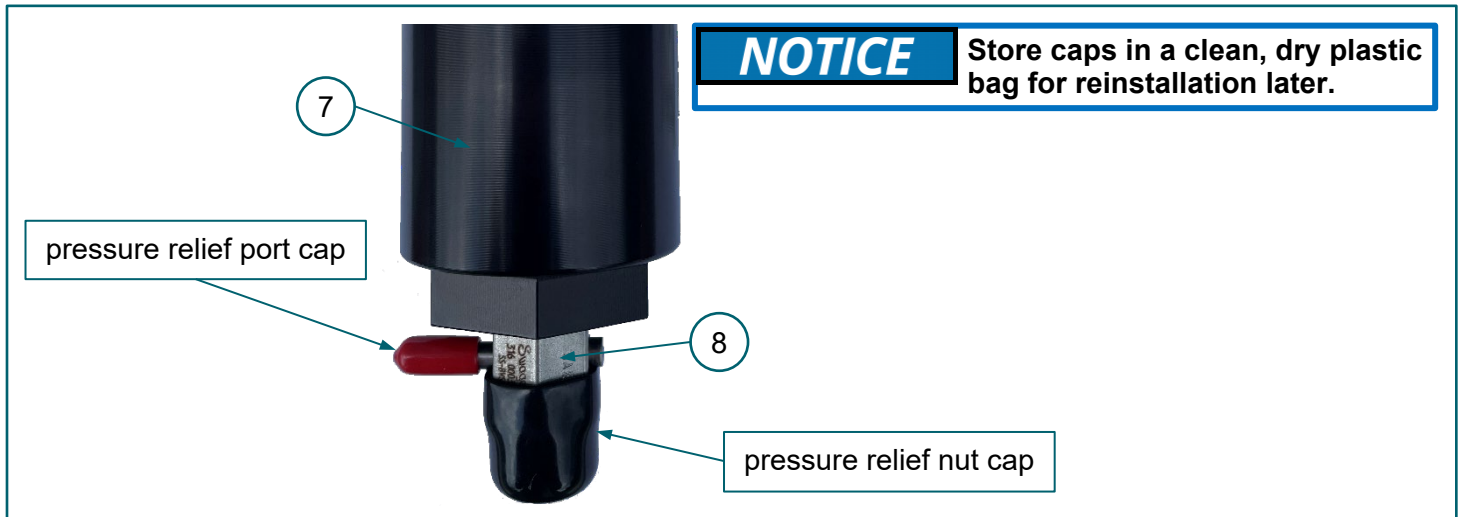

FIGURE 2-2. (7) HP fuel filter, (8) bleed valve, pressure relief port cap, pressure relief nut cap
6. Remove bleed valve pressure relief port cap and pressure relief nut cap from (8) bleed valve located on (7) HP fuel filter. **FIGURE 2-2**